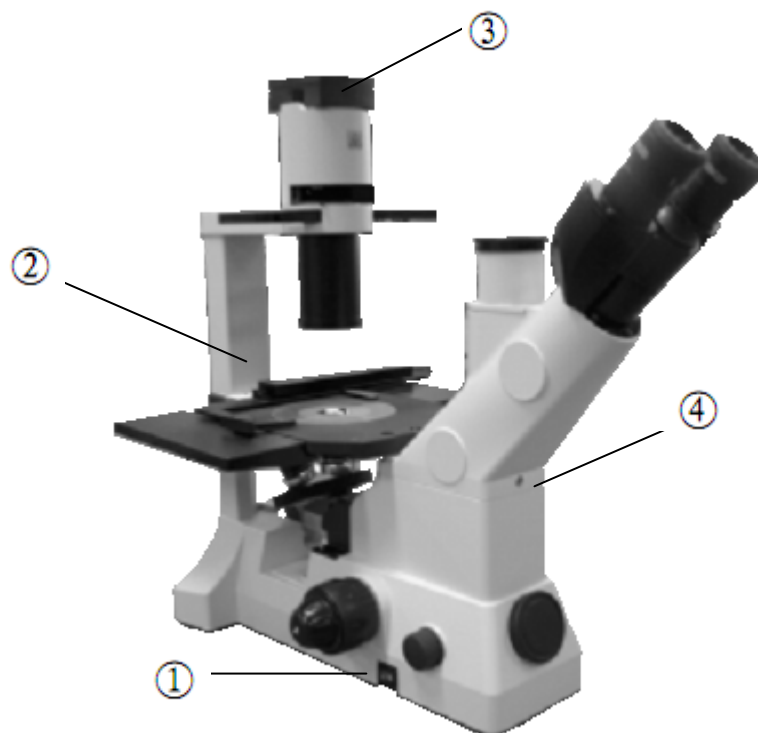

Fig.1
2. When moving the microscope, please hold the instrument by the lower side of the observation tube④ and the illumination column②. ( Fig.1 )
4. When working, the lamp house on the top of the arm③ (Fig.1) will become very hot, be sure there is enough room around the lamp house (especially the top side for cooling).
5. Before replacing the lamp bulb or fuse, turn the main switch① to the “O”(off) position, then cut off the power. If the lamp is on, or soon after it has been turned off, it is hot and will cause serious burns, please do the replacement after it cool down completely.